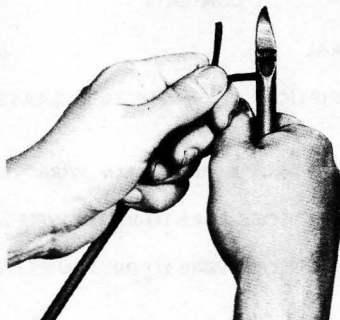

Fig. 3—Crushing Insulation
- * THE CLEARANCE OVER RESIDENTIAL STREETS MAY BE REDUCED 2 FEET AT THE EDGE OF THE ROAD IF REQUIRED CLEARANCE IS OBTAINED AT THE CENTER OF THE ROAD. SEE FIG. 3.
- (3) Crush the 15/16-inch length of insulation between the handles of diagonal pliers (Fig. 3).